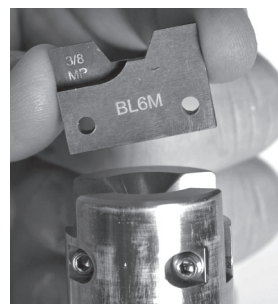

Fig. 6 Removing the coning blade
4. Remove the coning blade from the blade holder. (Fig. 6)